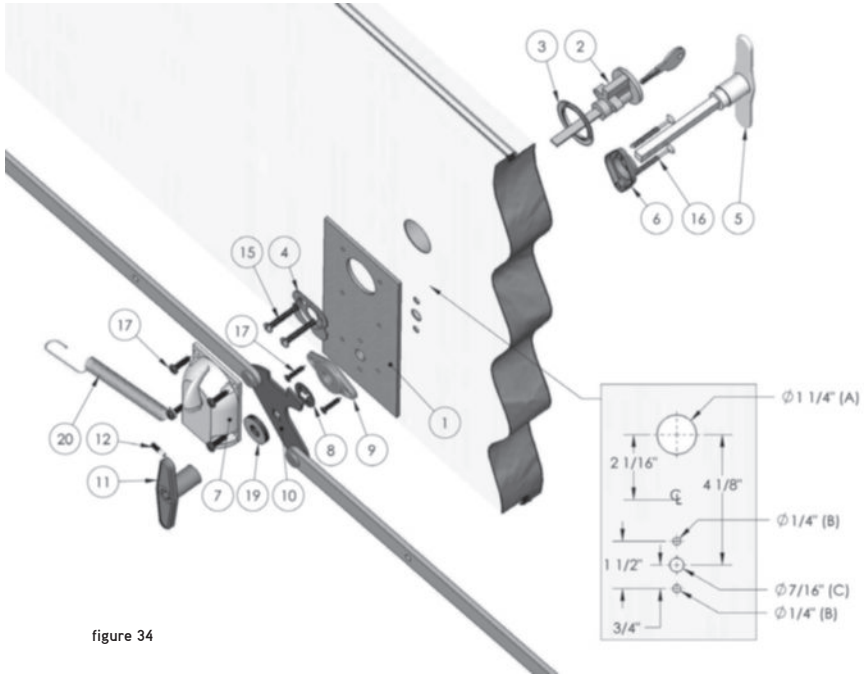

figure 34
2. Using figure 34 as a reference, mark the location of the four holes on the panel for A (barrel), B (screws) and C (handle);
4. Slide the exterior barrel (2) and trim ring (3) into hole (A). (The teeth of the key must be facing up and the key hole must be at the bottom of the barrel);
5. Position the steel plate (1) on the inside of the panel;
6. From the inside of the panel, insert plate (4) in hole (A) by positioning the round part downwards;
7. Insert 10 x 1 \square screws (15) in plate (4), align the screws in the holes of the outside barrel (2) and tighten the screws (make sure the plate is well aligned);
8. Insert the inside lock (7) in the shaft of the outside barrel (2) and fasten it to the steel plate (1) with four $\frac{3}{8}$ screws (17) using a square head screw driver; Be sure to insert the bottom left screw in the round end of the return spring (20) before installing;
9. From the inside of the panel secure the plate (9) over hole (C) with two $\frac{3}{8}$ screws (17);
10. Insert outside handle (5) in trim plate (6) and insert through hole (C);
11. Insert both 2 \square screws (16) through holes (B), align them in the steel plate holes and tighten;